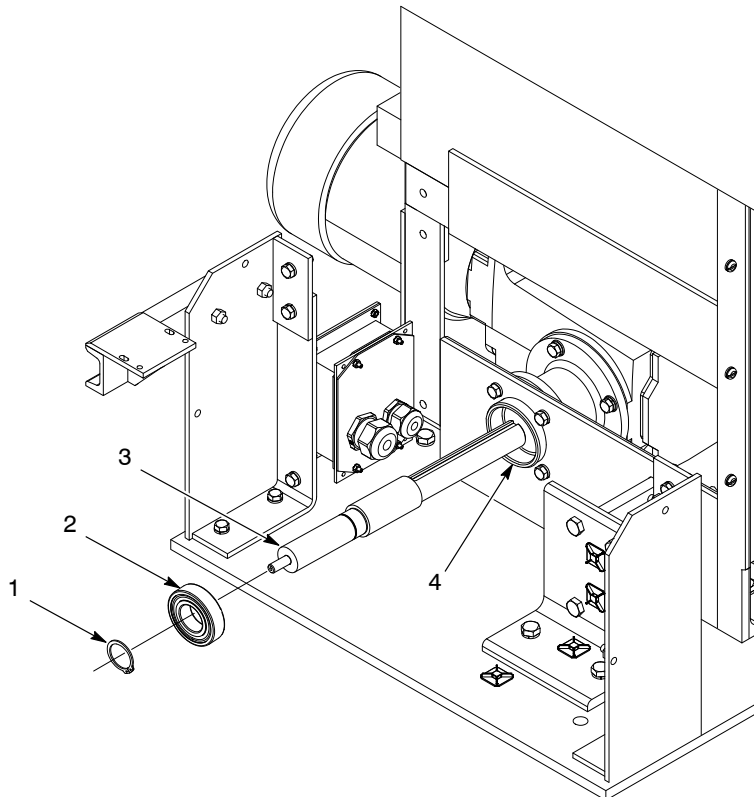

Figure 20 Replacing the Bearing or Gear Motor Shaft
3. See Figure 20. Remove the retainer snap ring (1) from the drive motor shaft (3). Remove the drive motor shaft from the adapter (4).
4. Inspect the drive motor shaft (3) for wear or damage and replace if necessary.
5. Remove the bearing (2) from the adapter (4).